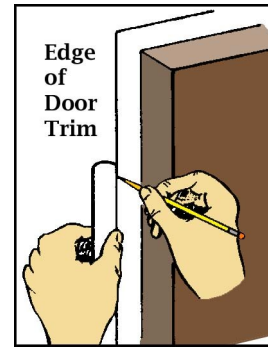

Figure 3
- **Step 5** Extend the fin lines using the trim around a door, as shown in Figure 3, or using a piece of brass angle stock. Measuring from the rear edge of the body tube, the two vertical fin lines are 2" long, the two main fin lines are 10" long, the two subfin lines are 4" long, and the launch lug line is 5" long. Place a mark on the lug line 2.75" from the rear edge of the body tube.